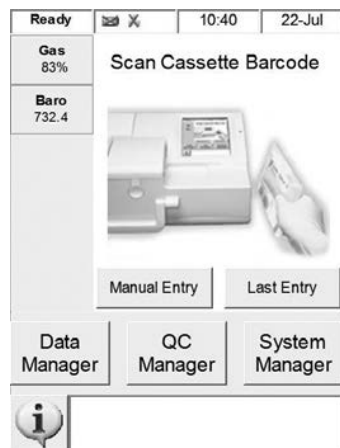

Fig. 5-1 Ready Display
1. Turn on the OPTI CCA-TS and wait until this display appears (Fig. 5-1).